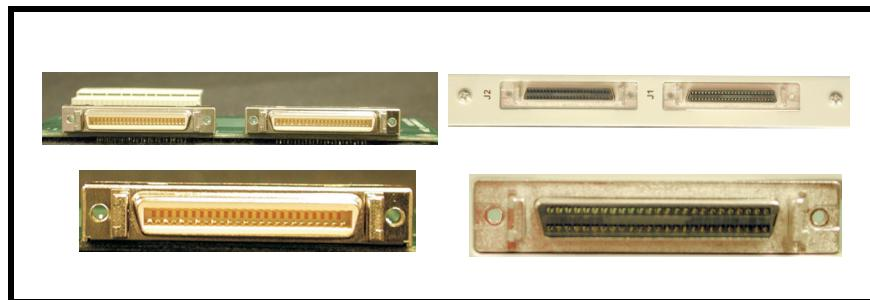

FIGURE 3. MDR backcard/connector and SCSI backcard/connector.
3. Carefully attach the backcard (MDR or SCSI, see Figure 3) to the AIO-16 card from the back of the ADAM. Verify that it is properly seated against the AIO-16 card and is sitting firmly in the system.